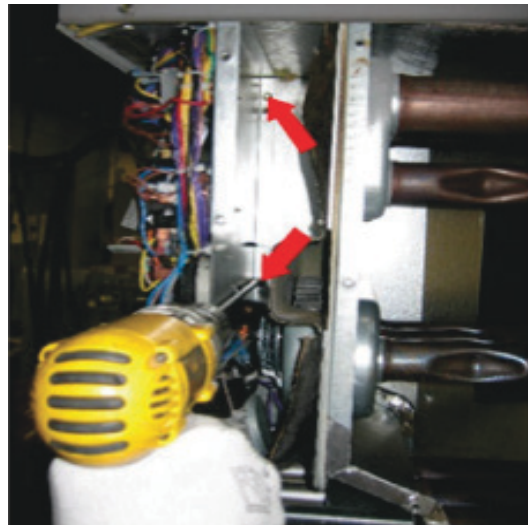
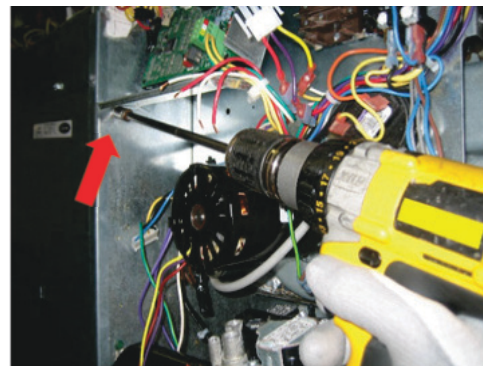

Fig. 30 – Removing Screws Behind Heat Shield ^{A210077}
Fig. 31 – Removing Screw Under Control Board Panel ^{A210078}
2. Remove 2 screws holding the flue hood (Fig. 31) and remove the flue hood.
6. Re-connect flue hood (Fig. 31) using the 2 screws removed.
13. Remove 2 screws from behind Heat Shield and 1 screw under control board panel (Fig. 30 and Fig. 31).